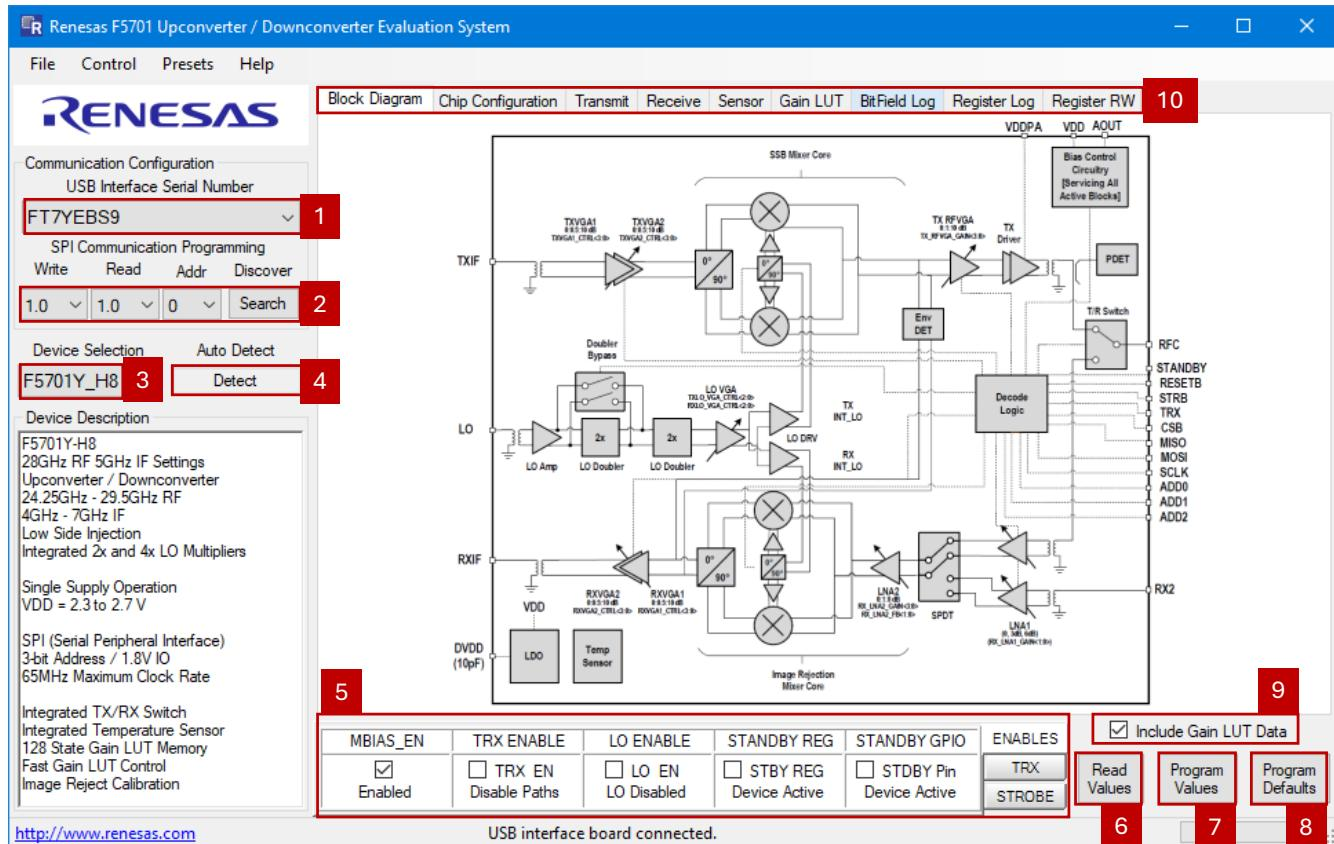
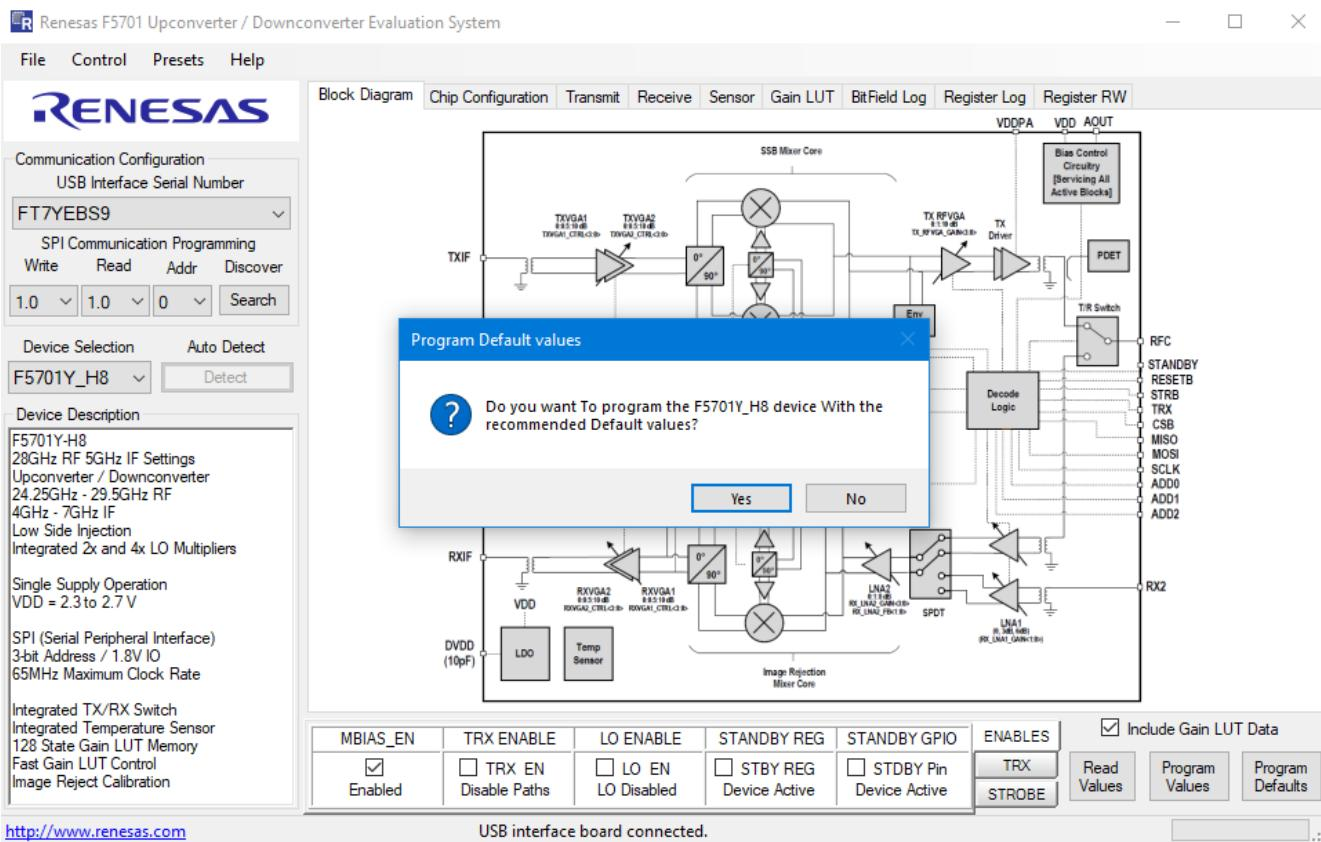
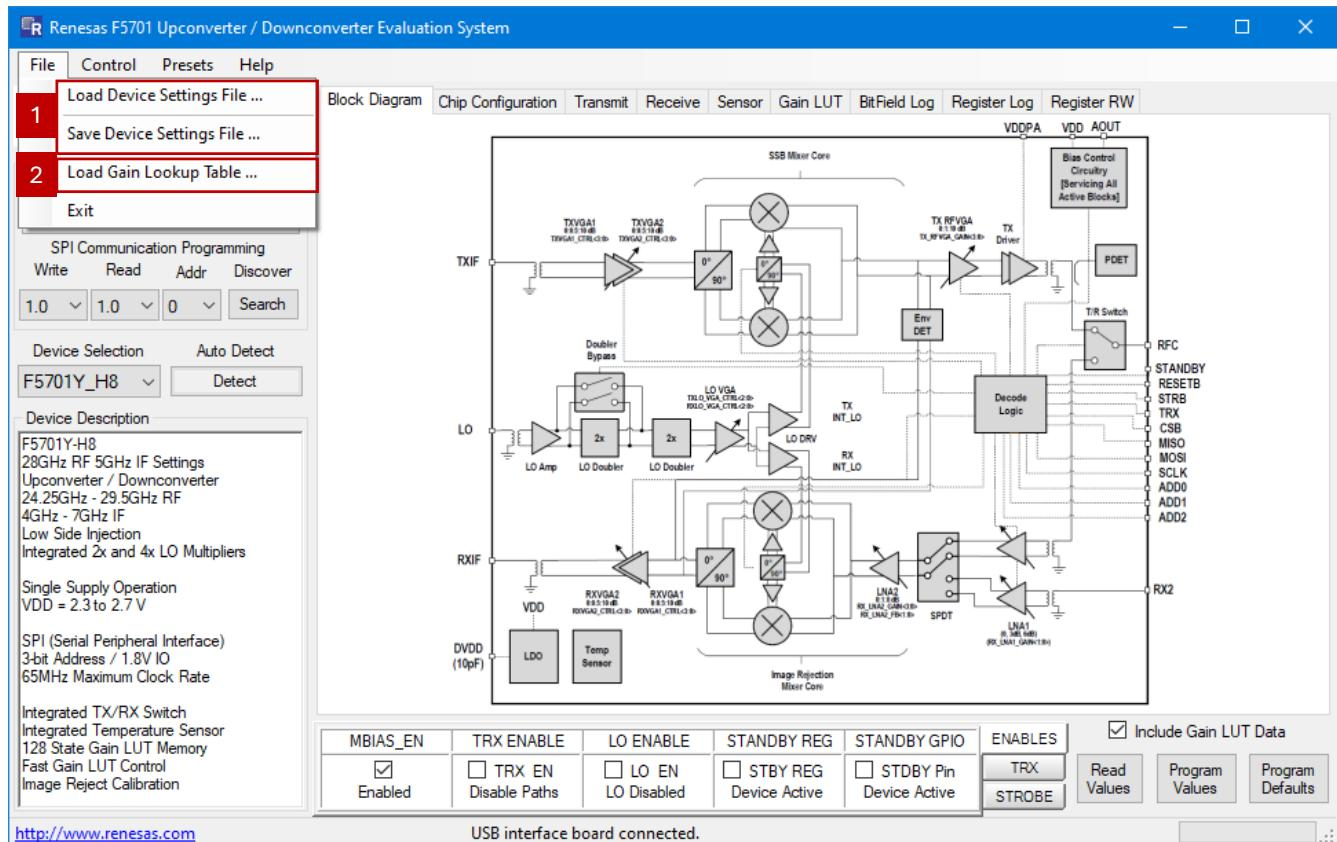
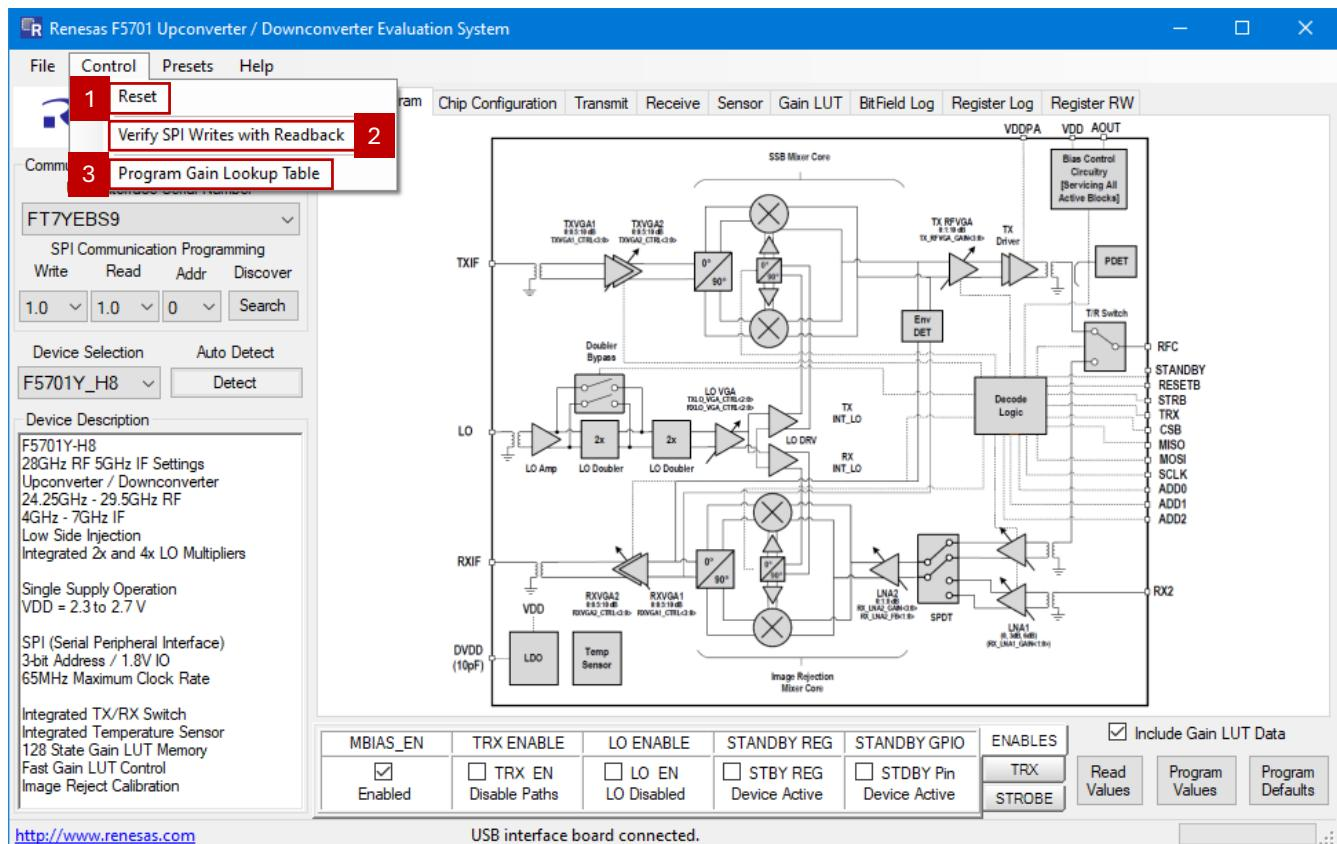

Figure 5. Application Control Panel at Start-up
Figure 6. Pop-up Window to Program Default Values
Figure 8. File Menu
Figure 9. Control Menu
1. Open the application through the Windows Start menu or click on the application icon if saved on the desktop. The application appears as shown in Figure 5. The USB Interface Serial Number (Figure 5, item 1) should be auto-detected if the FT2232HL digital interface board is connected and recognized.
2. Select write speed, read speed, and chip address (Figure 5, item 2), then select **Detect** (Figure 5, item 4) to start the communication with the device. The **Device Selection** drop-down menu (Figure 5, item 3) is automatically selected with the correct device variant (ZL or Y). A subsequent pop-up window will ask if the user would like to program the device with the recommended default values (Figure 6). Click **Yes** to program the default values or click **No** to reset the device.
3. For each device variant, there are five recommended settings to choose from: H8 (5GHz IF / 28GHz RF), H6 (5GHz IF / 26GHz RF), H6H (5GHz IF / 26GHz RF, high linearity), L8 (3GHz IF / 28GHz RF), and L6 (3GHz IF / 26GHz RF). By default, H8 is initially selected and programmed. To program the device to other settings, use the **Device Selection** drop-down menu (Figure 5, item 3) and follow the pop-up window.
4. Users can also program the device with the recommended default values at any time afterward by clicking the **Program Defaults** button (Figure 5, item 8). After the programming, the GUI settings will be in sync with the hardware settings and the device can be controlled in real time.
5. Users can quickly enable/disable the master bias, enable/disable signal paths, set the device standby mode, switch between transmit and receive modes, and control the strobe pin by using the high-level chip control checkboxes at the bottom of the main panel (Figure 5, item 5).
6. To read all bitfield and register values at any given time, click the *Read Values* button (Figure 5, item 6) and the results will be displayed on both **BitField Log** and **Register Log** panels. To view the results, click on either **BitField Log** or **Register Log** panel tabs (Figure 5, item 10).
- The File menu shown in Figure 8 provides options to load or save device settings (Figure 8, item 1). Device bitfield settings can be saved to an XML file and loaded back to the software at any given time. To use a Gain Lookup Table (LUT), **Load Gain Lookup Table** (Figure 8, item 2) to load a gain LUT file, then select **Program Gain Lookup Table** (Figure 9, item 3) in the Control menu to program it to the device.
Note: To use gain LUT, the **Include Gain LUT Data** checkbox (Figure 5, item 9) must be checked. The Control menu also allows users to reset the device (Figure 9, item 1). The software will read back the written register after every SPI write command if item 2 in Figure 9 is selected.
9. The main configuration control panel can be seen by clicking on the **Chip Configuration** panel tab (Figure 5, item 10). Users can select the corresponding subpanel tab to read chip information (Figure 11), set general device configuration (Figure 12), set/enable master bias (Figure 13), and test the SRAM (Figure 14).
15. TX/RX VGA/FE gain can be controlled by a predefined gain LUT. For gain control mapping and typical performance at nominal settings, please consult the datasheet. An example gain LUT CSV file is included with the evaluation software and can be loaded and programmed (Figure 8, item 2 to load and Figure 9, item 3 to program). The **Include Gain LUT Data** checkbox (Figure 5, item 9) must be checked beforehand. Select **Gain LUT** panel tab (Figure 5, item 10) to see the LUT control panels.